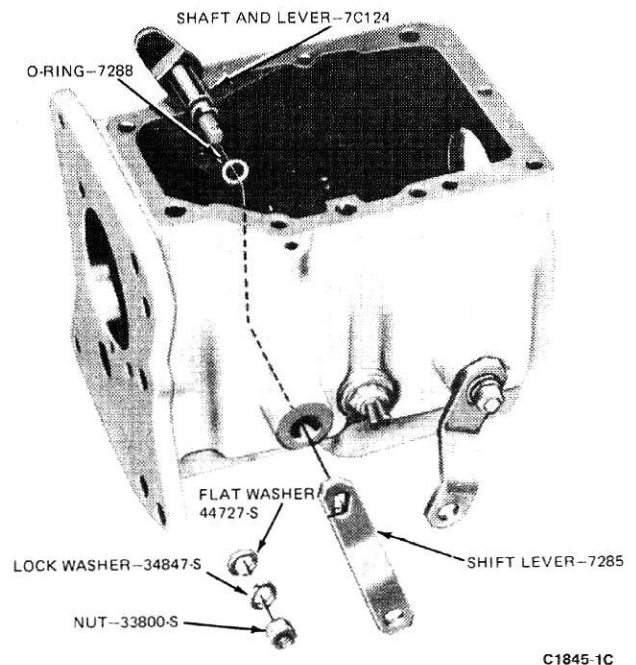

FIG. 14 Shift Lever and Shaft Disassembled
1. Remove the nut, lock washer, and flat washer that secure each shift lever (Fig. 14) to the shaft and lever in the transmission case. Lift the levers off the shaft. Slide each lever and shaft out of the case. Discard the O-ring from each shaft.